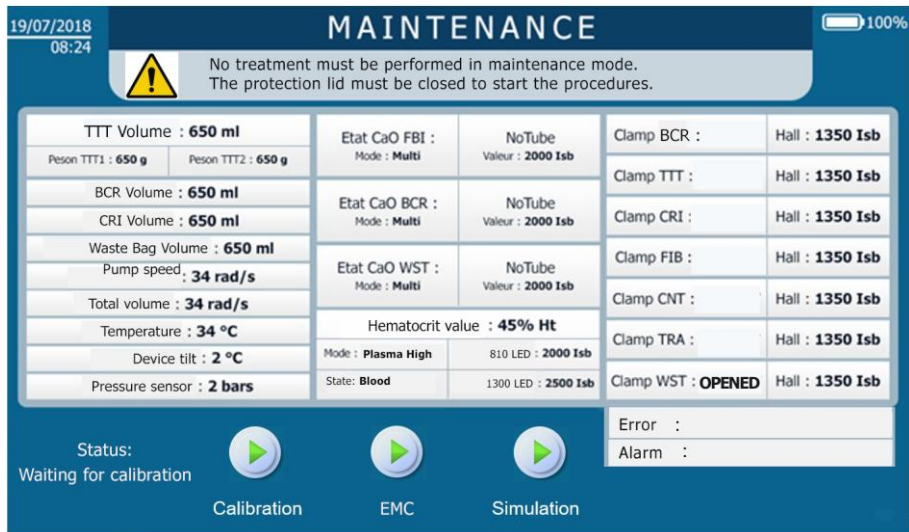

Figure 168: Maintenance screen
- Before installation, the device is in maintenance mode (See Figure 168) indicating that no treatment should be performed.